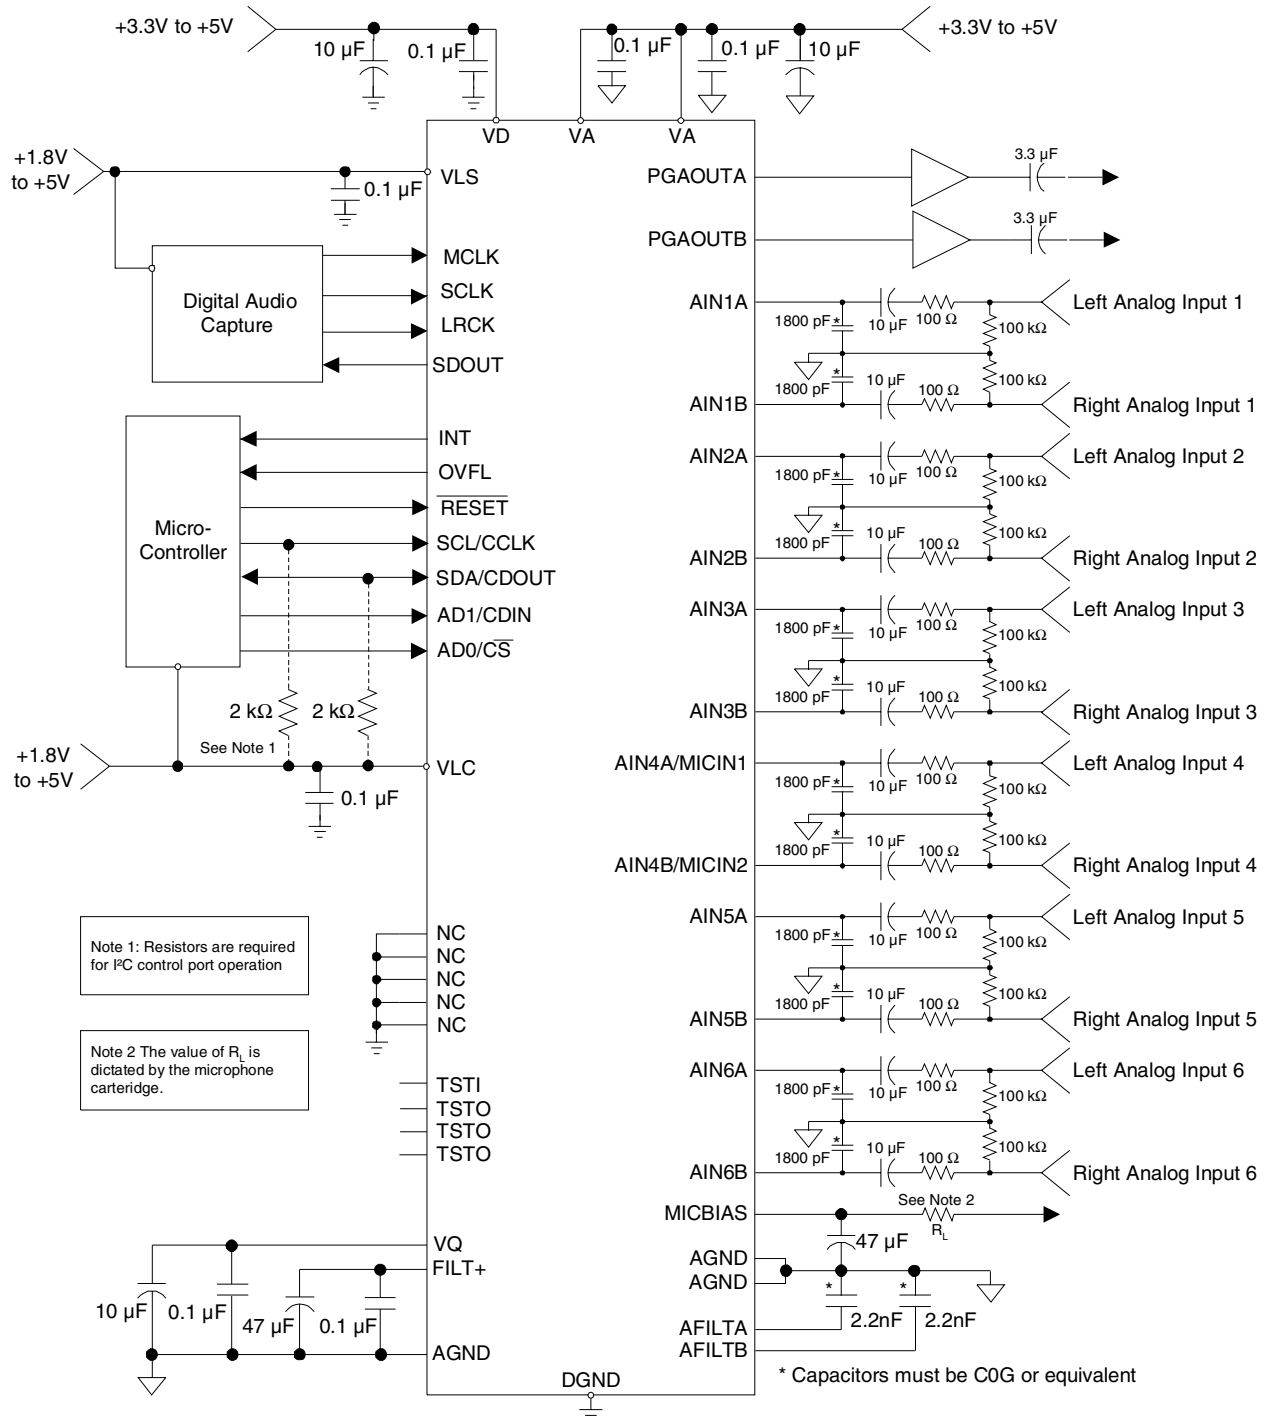

Figure 7. Typical Connection Diagram
As with any high resolution converter, the CS5345 requires careful attention to power supply and grounding arrangements if its potential performance is to be realized. Figure 7 shows the recommended power arrangements, with VA connected to a clean supply. VD, which powers the digital filter, may be run from the system logic supply (VLS or VLC) or may be powered from the analog supply (VA) via a resistor. In this case, no additional devices should be powered from VD. Power supply decoupling capacitors should be as near to the CS5345 as possible, with the low value ceramic capacitor being the nearest. All signals, especially clocks, should be kept away from the FILT+ and VQ pins in order to avoid unwanted coupling into the modulators. The FILT+ and VQ decoupling capacitors, particularly the 0.1 μF , must be positioned to minimize the electrical path from FILT+ and AGND. The CS5345 evaluation board demonstrates the optimum layout and power supply arrangements. To minimize digital noise, connect the CS5345 digital outputs only to CMOS inputs.